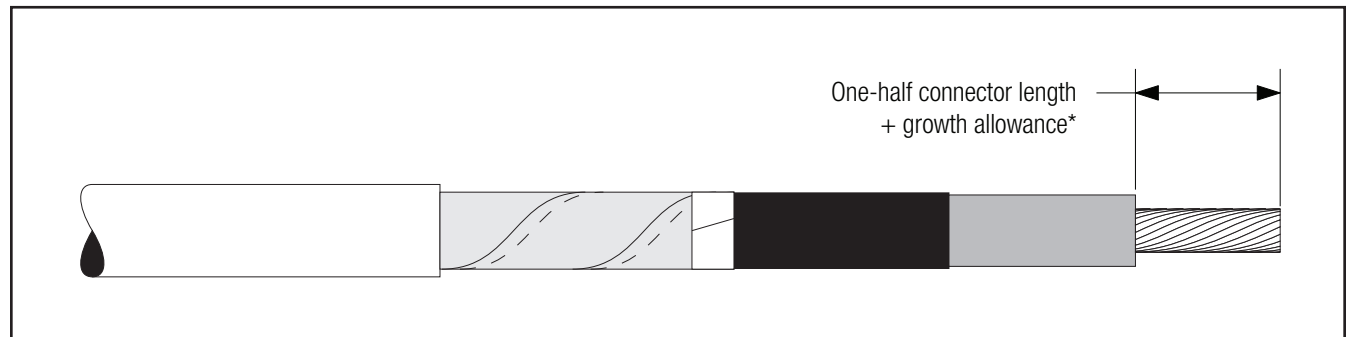

Figure 14
- 4.3 If using a crimp type connector, remove cable insulation for 1/2 connector length plus an allowance\* for increases in connector length due to crimping. Insulation removal length shall not exceed 3 3/4" (95 mm) from conductor end. Do not install connector now (Figure 14).**